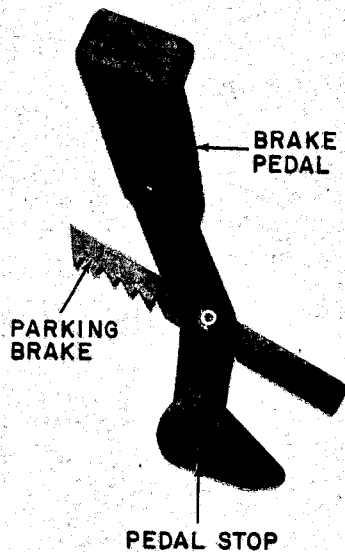

Fig. 5
6. The new brake pedal supplied with the kit may or may not be required, depending on the particular tractor involved. The old brake assembly removed has a stop nut on the calipers. The M-30 brake requires a pedal stop (see Fig. 5). If your brake pedal is like that in Fig. 5, the new pedal is not required. Only brake pedals with a stop tab can be used with the M-30 brake.